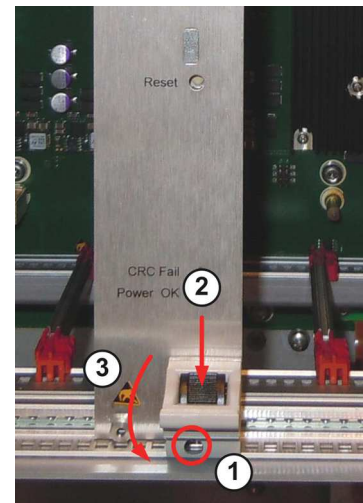

Fig. 7.19 Handle
- 3 Using tools 1/4 or tool 9, loosen the screws in the upper and lower handle, marked with 1 in Fig. 7.19 \(p. 125\) - these two screws are fixing the module to the frame.
Release the two handles (upper handle and lower handle) by pushing the black button into the handle - marked as "2" in Fig. 7.19 \(p. 125\). While doing this simultaneously on the two handles, move the upper handle upwards and the lower handle downwards ("3"). This will pull the module out of the connector.